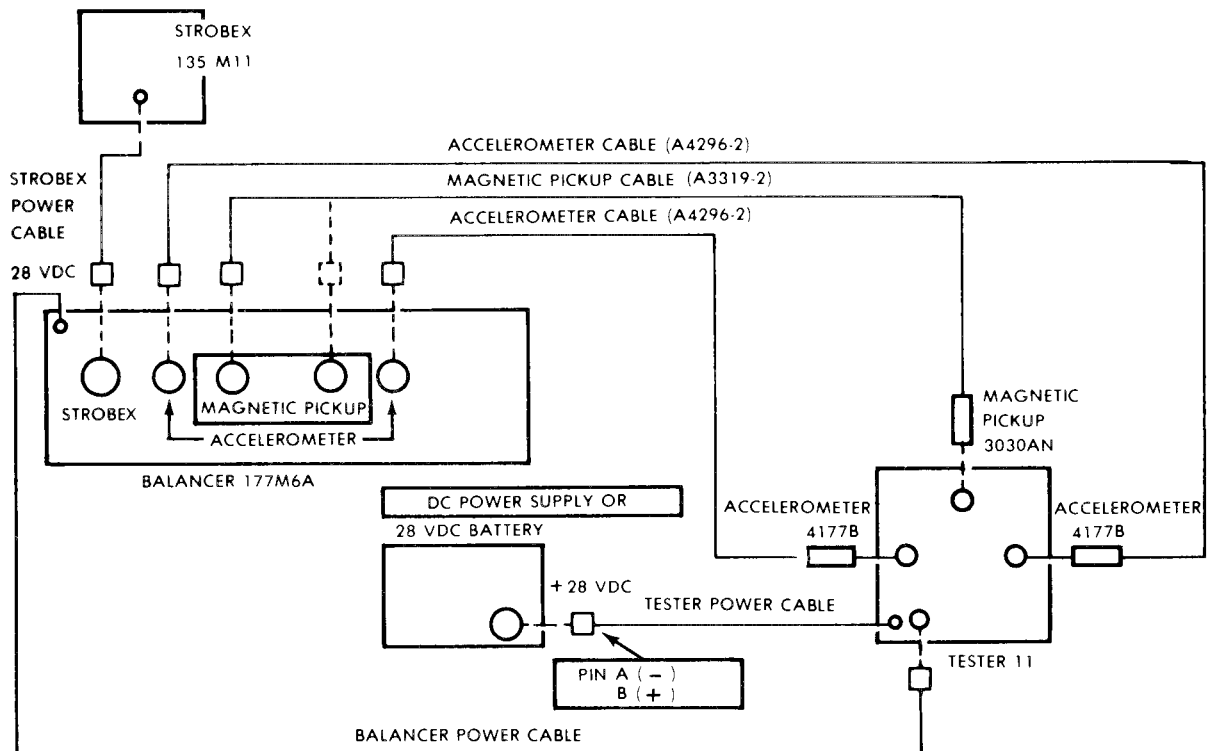
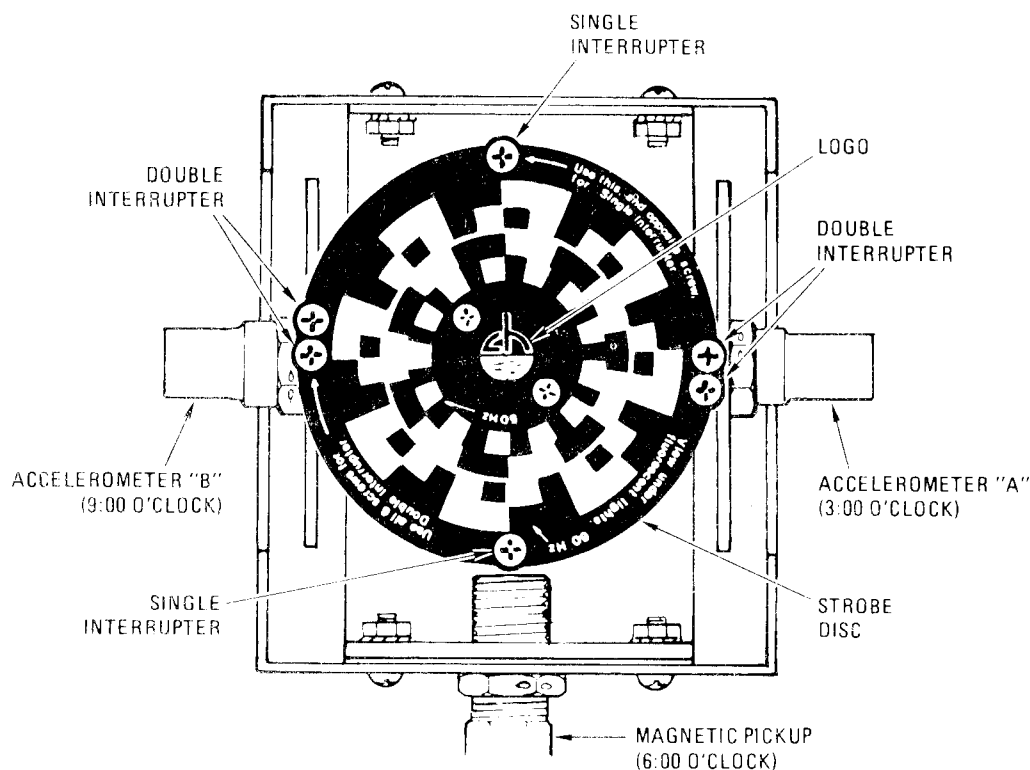
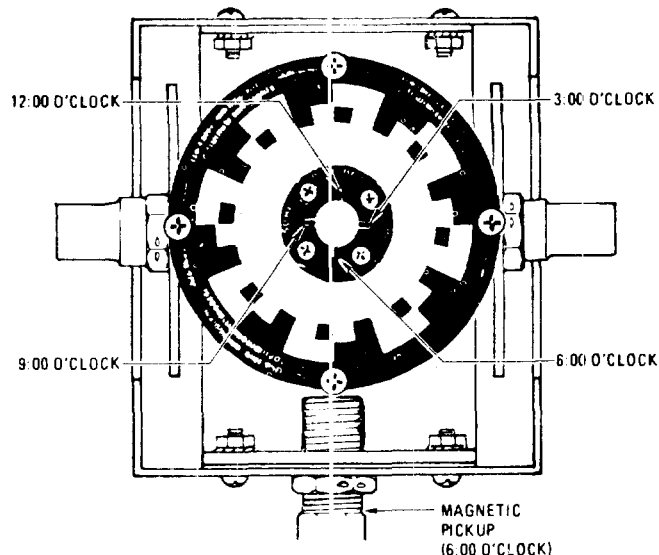

Figure 3-1. Tester, Accelerometer, and Magnetic Pickup Installation
Figure 3-3. Tester Interrupter Placement
Figure 3-5. Logo at 12:00, 3:00, 6:00, and 9:00 O'clock
- b. Test Setup. Refer to figure 3-1 for VIBREX test setup.
- (6) Set Tester rotor for double interrupter with all six screws in place (fig. 3-3).
- (7) Set Tester CAM RATE (RPM) and Balancer RPM Tune to 1800 RPM, RPM RANGE to X10.
(8) Test Balancer with double interrupter as follows:
(9) Test Balancer with single interrupter as follows:
- (a) Set INTERRUPTER LOGIC switch to SINGLE. leave others as set in step (4).
- (1) Connect VIBREX and Tester as shown in figure. 3-1.
- (2) Set Tester CAM RATE switch to 1800 RPM.
- (3) Set Balancer FUNCTION switch to A or B. Set Balancer RPM TUNE to 180 and set balancer RPM range switch to the X10 scale. All other controls are unimportant.
- (4) Set Strobex MODE switch to A.
- (5) Set Tester rotor for double interrupter (all six interrupter screws installed, fig. 3-3).
- (2) Set up Tester rotor for double interrupter (all six interrupter screws installed).
- (3) Set Strobex MODE switch to A.
- (4) Illuminate Tester rotor with Strobex. Verify that the stem of the h in the logo appears stopped at 12:00, 3:00, 6:00, and 9:00 o'clock (fig. 3-5).
- (5) Set Tester CAM RATE (RPM) and Balancer RPM TUNE to 1800. RPM RANGE to X10. Observe the same results.
- (6) Set INTERRUPTER LOGIC switch to SINGLE.
- (7) Shut off Tester.
- (8) Remove the two opposite pairs of interrupter screws on the Tester (four total) leaving only the two opposite single screws (fig. 3-3).
- (9) Run the Tester at 1800 RPM and illuminate the rotor with the Strobex. Verify that the stem of the h appears stopped at 12:00 and 6:00 o'clock.
- (10) Set Tester CAM RATE (RPM) and Balancer RPM TUNE to 900. RPM RANGE to X1. Observe the same results.
- (11) Shut off Tester.